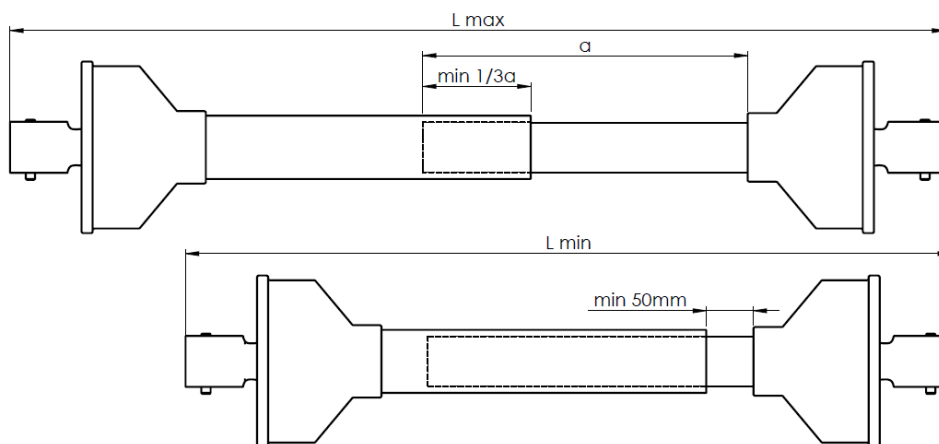

Figure 14 Adjusting the length of the shaft when the spreader is connected to the tractor
- that the PTO shaft transmitting the tractor's drive is of sufficient length when connected in all possible positions of the tractor in relation to the machine (Figure 14);